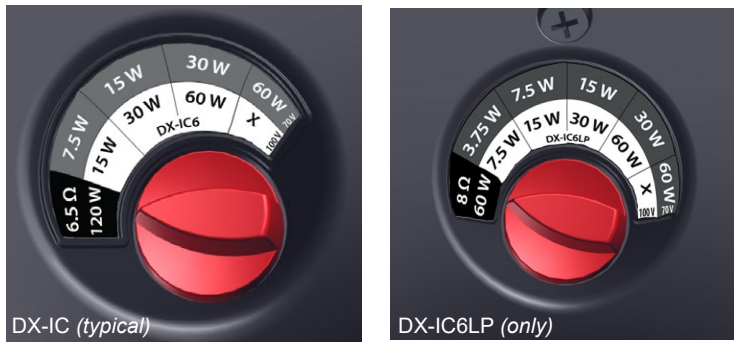

Figure 6. Set tap
- Set tap switch by rotating knob to the desired setting. Both the DX-IC6 and DX-IC6LP are shown in Figure 6. The DX-IC6LP has 6 tap settings.